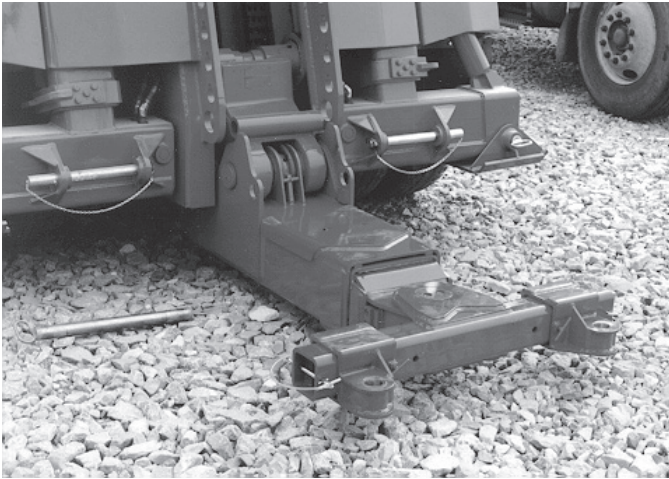

FIGURE 4A.1
- (b) Press FOLD "DOWN" button until Underlift Boom is all the way down. See Figure 4A.1.
4A.4 At this point, you must determine which type lift you are going to use for towing: FORK LIFT; SPRING LIFT; AXLE LIFT; TRUCK WHEEL LIFT; etc. The following text covers the methods of operation for each of the above mentioned lifts. Towing attachments are located in the storage compartments on the left hand side of the body. See Figure 4A.2.